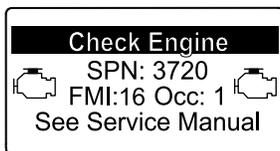

Figure 71
- Engine warning SPN 3720, FMI 16 (Figure 71)